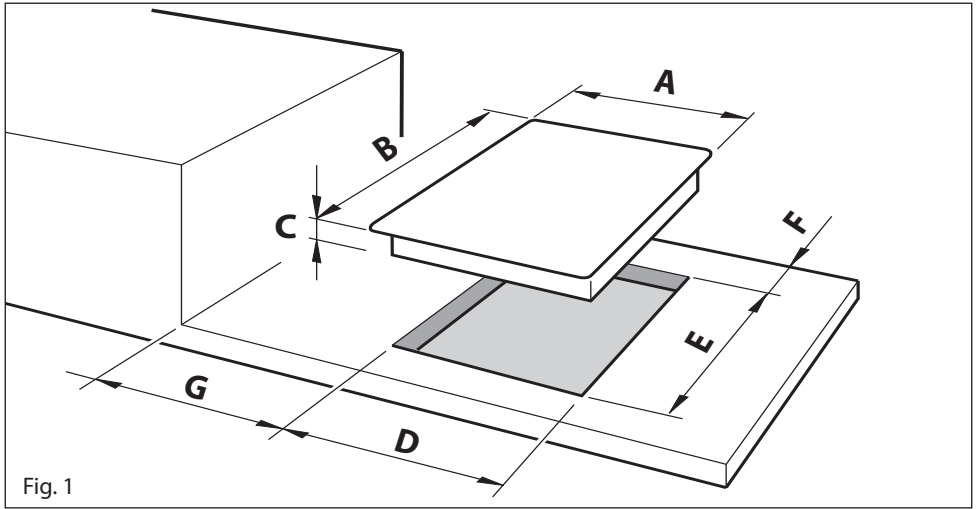

Fig. 1
- The cooker top must be kept no less than 100 mm away from any side wall (from side edge of cutout - figs. 1, 2).
- The hob must be installed at least 50 mm from the wall (from rear edge of cutout - fig. 1).